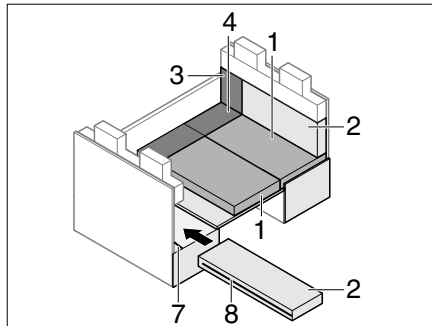

Fig. 208 During conversion
- Open the zip (Fig. 208,8) at the back cushion.
- Put the recess in the back cushion over the ISOFIX traverse (Fig. 208,7).